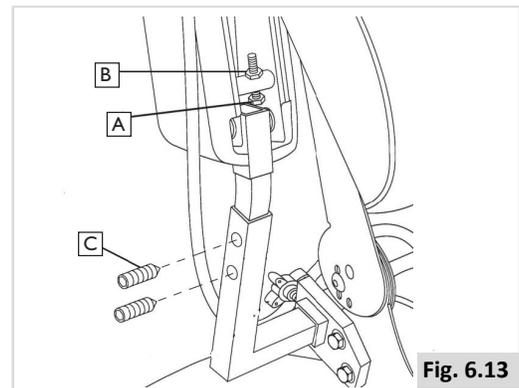
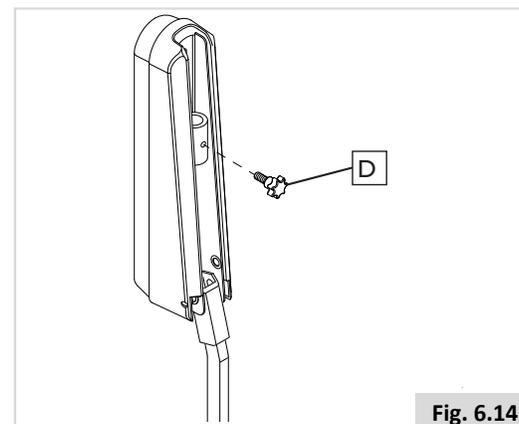

Fig. 6.13
Fig. 6.14
- Lift the armrest straight up so that it is perpendicular to the floor. Raise or lower the armrest to the desired height, Figure 6.13.
- Loosen the jam nut (A).
- Turn the adjusting screw (B) to raise or lower the front of the armrest.
- Tighten the jam nut (A) to lock the adjusting screw into place.
- Make sure that the armrest knob (D) is hand tight when finished, Figure 6.14.